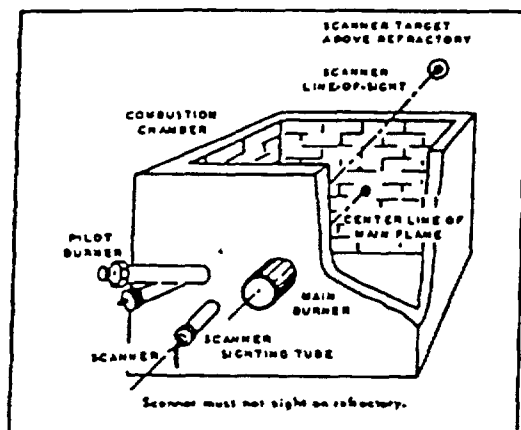

Figure 6
1. Locate scanner sight tube point of entry below and close to the burner ignition assembly (Fig. 6) and drill a 7/8" hole through the boiler or furnace wall. The sight tube, a 4'-8" length of 1/2" black iron pipe, will be fixed to the hole when the proper position has been established.